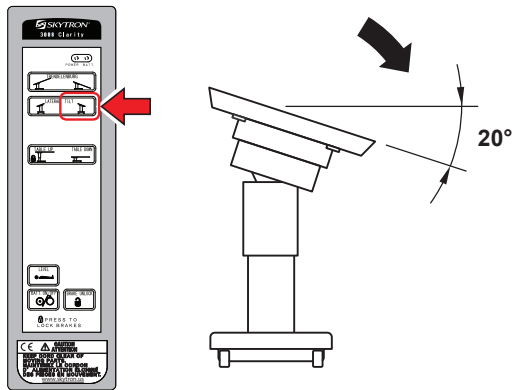

Figure 24. Normal Right Down
1. Press the Right Down button  on the pendant control (Figure 24). The table top will move to the normal right down position as viewed from end opposite the back pack.